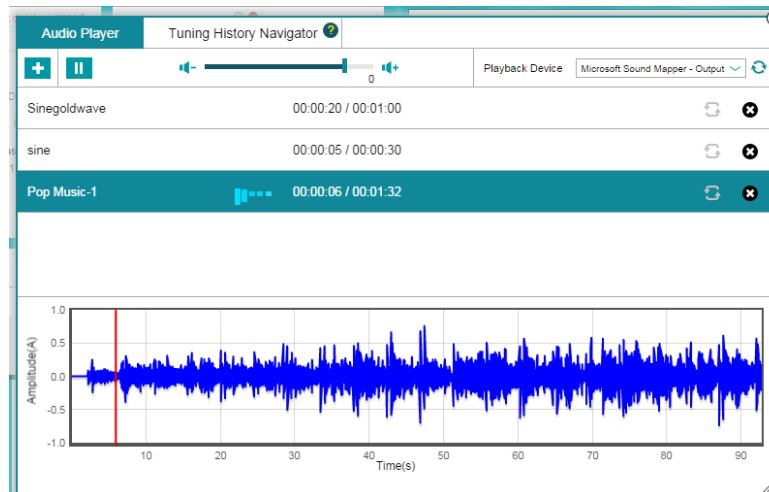

Figure 17. Audio Player with Tracks Added
Audio Tracks can be added to the Player by selecting the '+' icon in the top left of the audio player. Selecting the audio file adds it to the track list. Clicking on the particular track plays the track. Audio Player with tracks added is shown in Figure 17. Clicking on the repeat icon in the track list repeats the particular track. Clicking on the 'x' icon at the right most of the each track removes that track from the list. The Play/Pause button, next to add track in the Audio Player, can be used to play/pause the current track. Playing/Pausing, Next Track, and Previous Track options are also available in the Audio Player shortcut at the top center which can be used to go through the list of tracks when the Audio Player is not launched as a window.
When a track is added to the Audio Player list, its corresponding waveform view with Amplitude (A) on Y-axis and Time(s) on X-axis will be displayed as shown in Figure 17.